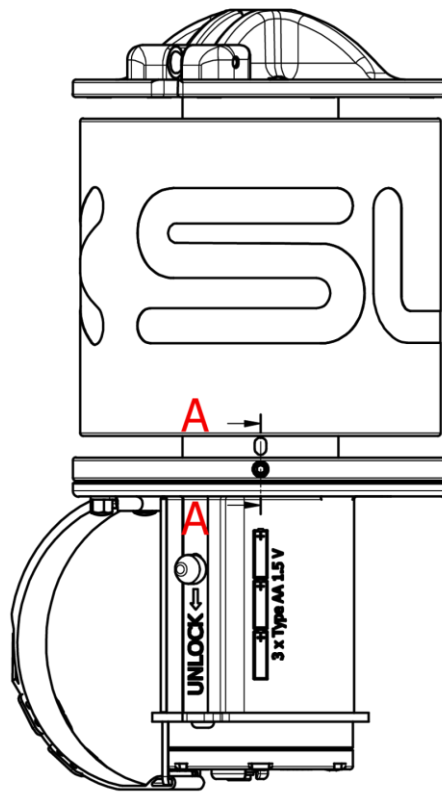

Fig. 15 - Reference notches
- Unscrew the handle ring screw (3) (with Allen key 2.5 mm)
- Unscrew the screws (4) not more than 5 mm (with Allen key 2.5 mm)
- Lift the ring (5)
- Unscrew screws (with a cross screwdriver) and nuts (6) (with wrench 7mm)
- Raising the ring (7)
- Remove the handle holder (8).
- Reposition the handle support plate on the opposite side (8), in the seats,
- Place the closed end of the handle (9) between the two holes
- Clamp it with the kickstand (10)
- Screw screws (with a cross screwdriver) and nuts (6) (with wrench 7mm).
- Lower the ring (5) taking care to center the grain position with the reference notches (see Fig. 15)